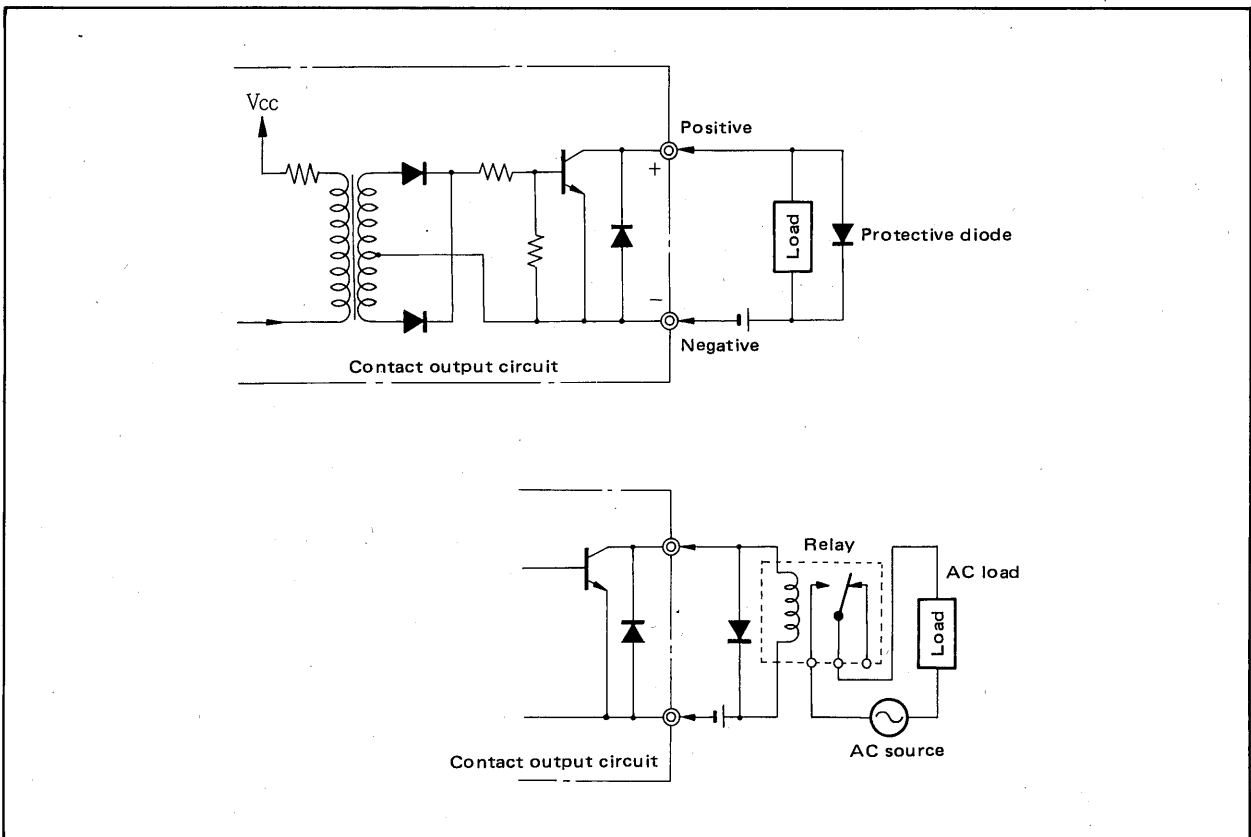

Figure 3-1-3. Contact Output Connections.
- (1) Be sure to use solderless crimp-on lugs on all cable connections.
- (2) Each status (contact) and voltage input must be of the proper rating. Note the limits on leadwire resistance, voltage drop across leadwires, and voltage (high/low) levels.
- (3) The fail and status (contact) outputs are transistor contact signals (isolated from power supply and other internal circuitry). When connecting external devices, pay attention to the following (see Figure 3-1-3):